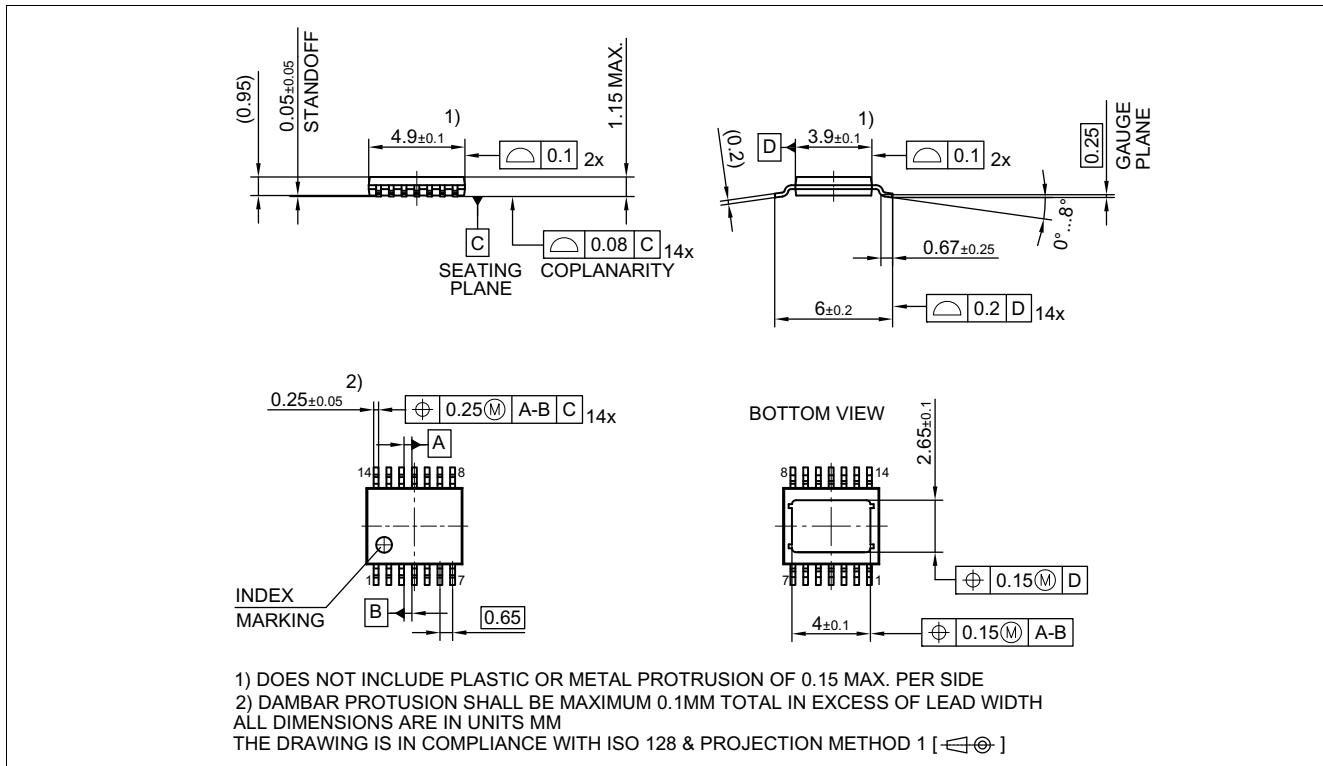
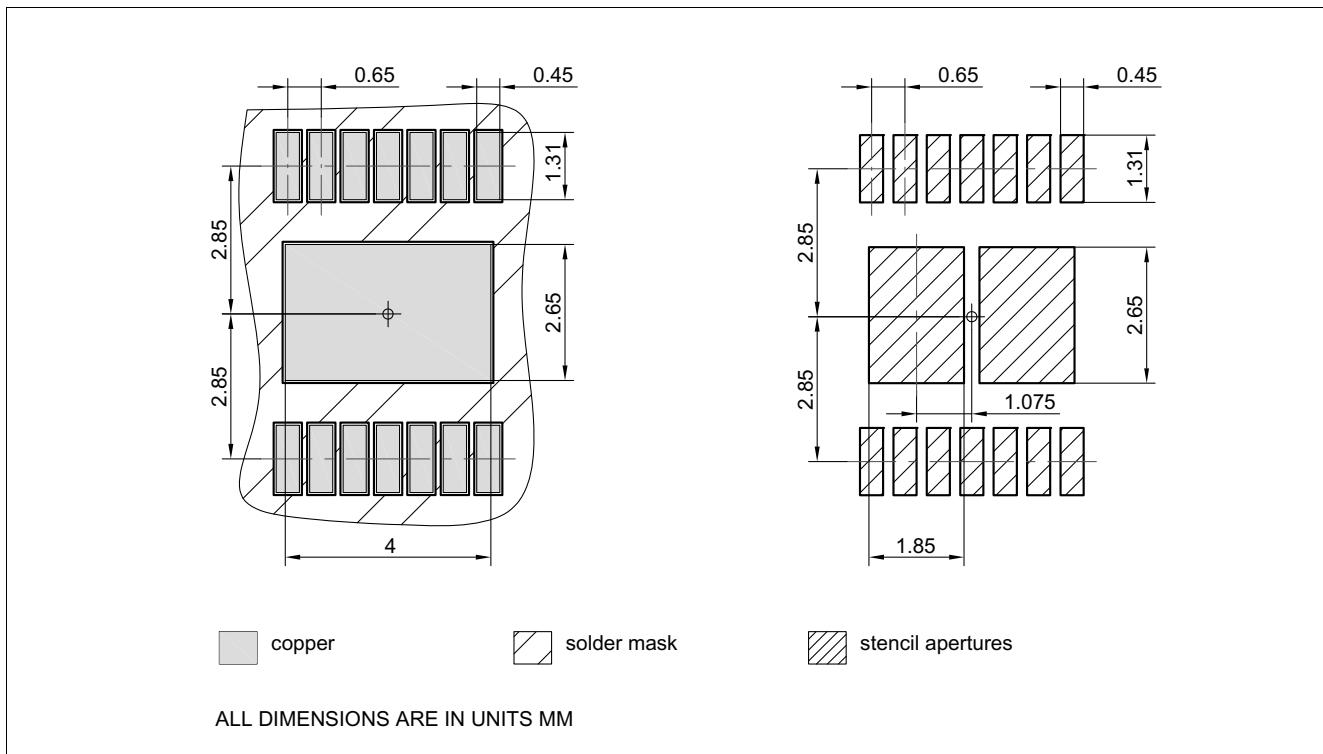

Figure 38 PG-TSDSO-14 (Thin (Slim) Dual Small Outline 14 pins) Package Outline
Figure 39 PG-TSDSO-14 (Thin (Slim) Dual Small Outline 14 pins) Package pads and stencil
1.02 , 2019-02-05	<p>Figure 9, Figure 10 updated Page 1: updated (figure product) Table 22 updated (punctuation) Chapter 9.3, Chapter 9.3.1 updated (typo) Page 1: updated (Package PG-TSDSO-14-22 → Package PG-TSDSO-14) Figure 38 updated (PG-TSDSO-14-22 (Thin (Slim) Dual Small Outline 14 pins) Package Outline → PG-TSDSO-14 (Thin (Slim) Dual Small Outline 14 pins) Package Outline) Figure 39 updated (PG-TSDSO-14-22 (Thin (Slim) Dual Small Outline 14 pins) Package pads and stencil → PG-TSDSO-14 (Thin (Slim) Dual Small Outline 14 pins) Package pads and stencil) Table 1 updated (corrected typos in table Product Summary: k_{ILIS}: 14700 → 14500), $I_{VS(OFF)}$: 1 → 0.3 μA Table 1 updated (Symbol: $I_{VS(OFF)}$ → $I_{VS(OFF)_85}$) P_6.5.23.1 updated (Symbol: $I_{VS(OFF)}$ → $I_{VS(OFF)_85}$) P_6.5.23.2 updated (Symbol: $I_{VS(OFF)}$ → $I_{VS(OFF)_150}$)</p>